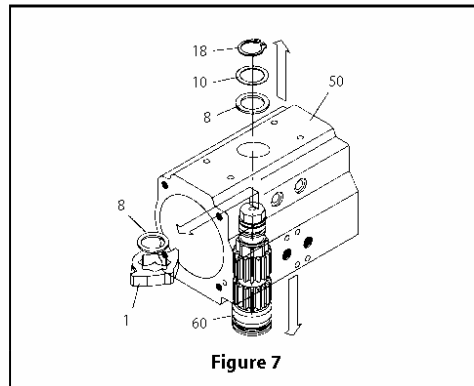

Figure 7
- A. Holding the body (50) in a vice (or similar device), rotate the drive shaft (60) until the pistons (40) are released. **CAUTION: Air Pressure should not be used to remove the pistons from the body.** Clean and inspect the piston teeth for signs of wear. Replace piston if wear seems excessive.
- B. Remove piston o-ring seal (16) using a screwdriver. Remove the piston head (15) and piston back (5) bearings. Discard bearings if replacing all soft parts.
5. Drive Shaft (60) and Bearing (6, 7) Disassembly, (Figure 7):